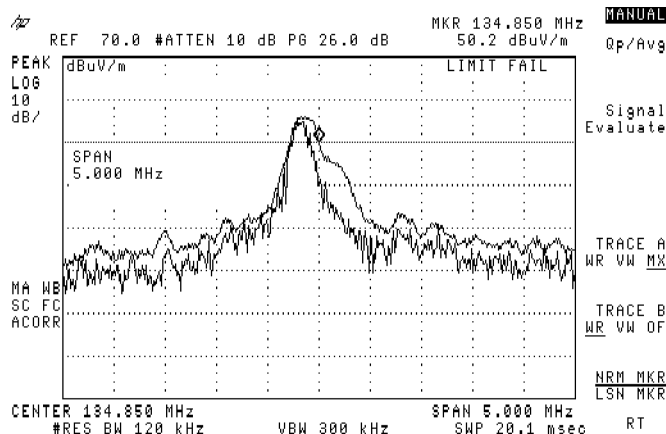

Figure 3-62. Trace A in Max Hold and Trace B in Clear Write
11. Move the device around and change the polarization of the antenna to get the worst-case emission. See Figure 3-62.